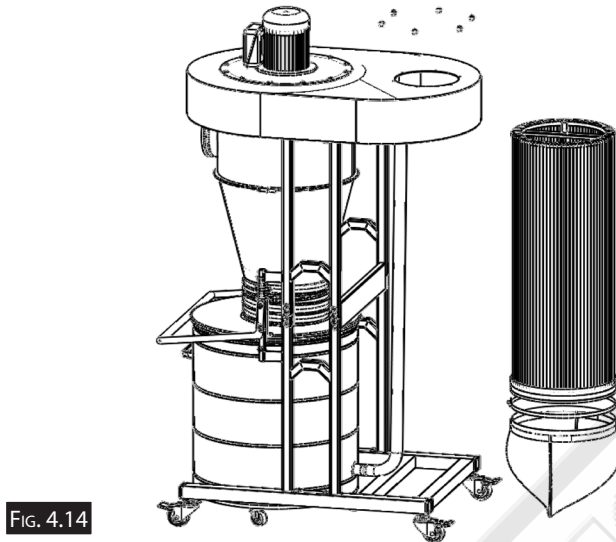

FIG. 4.14
14. Attach the plastic filter bag to canister filter and secure with the bag clamp. Attach the canister filter to the impeller housing with (6) flange bolt 5/16 x 3/4. (Fig. 4.14)